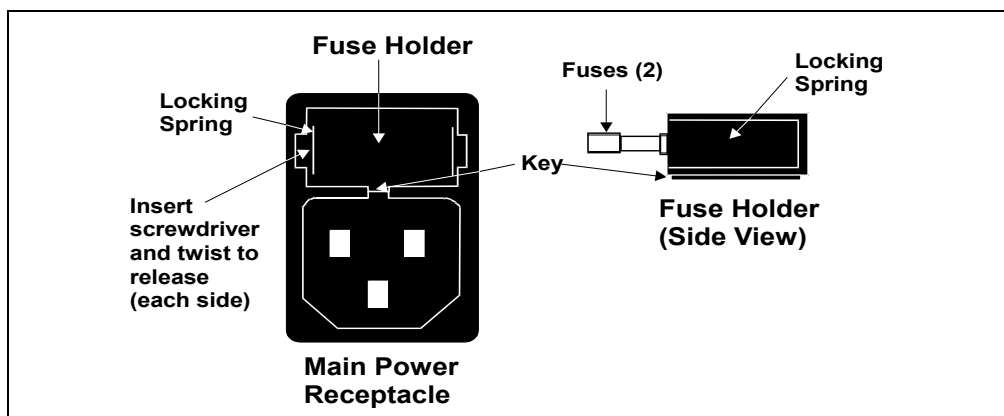

Figure 5-6. Main Power Fuse Holder
2. The fuse holder is part of the main power receptacle on the GS50 rear panel (see Figure 5-6). Note the recessed lock located on each side of the fuse holder.